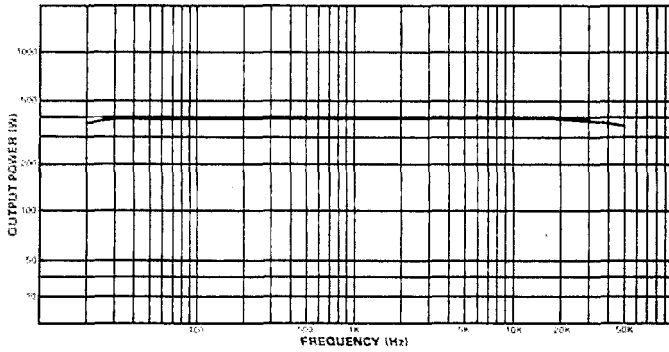

Fig. 14 - Power Bandwidth vs Frequency (Mono Mode) at 16Ω Load Impedance
**MONAURAL MODE SPECIFICATIONS****Power Output:** (Refer to Figures 14 and 15.)
While no amplifier should ever have to produce 230 watts continuous output at 20kHz, the P-2200 does it with low distortion, and symmetrical reproduction. As in Fig. 14, the noise (magnified here) is actually better than 110dB below the sine wave.